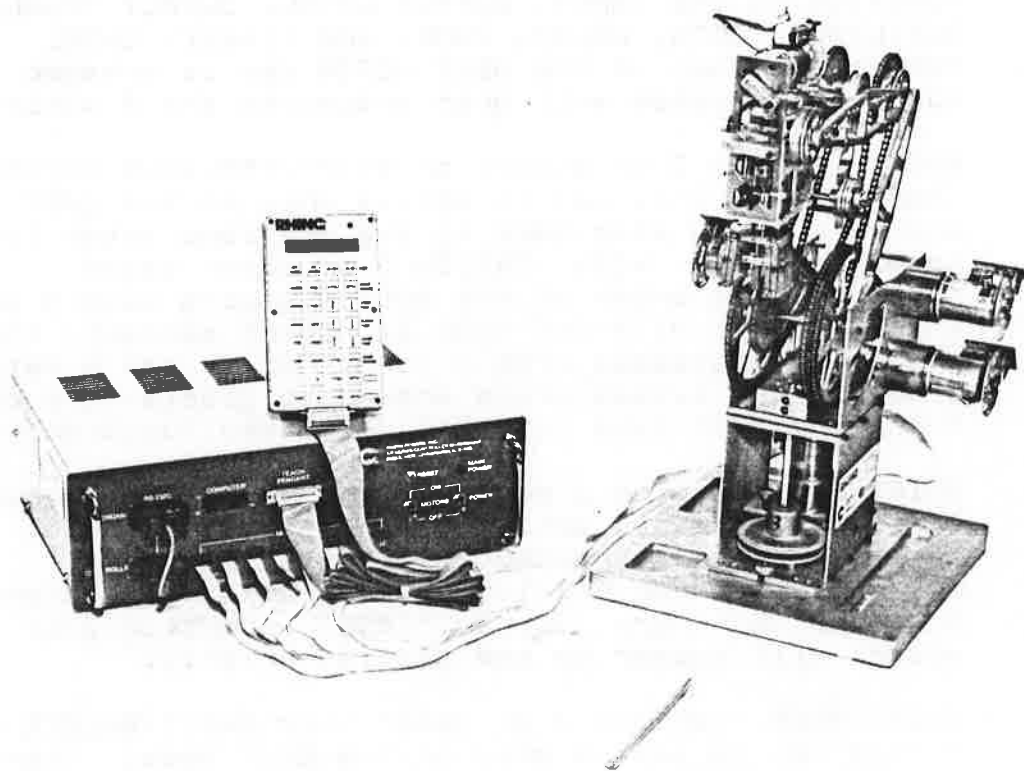

Figure 11.3 Set-up for Lab Activity 1
1. Locate the robot and the controller on a table, as shown in Figure 11.3.
- ____6. Using the teach pendant, put the robot in a position similar to the one shown in Figure 11.3.